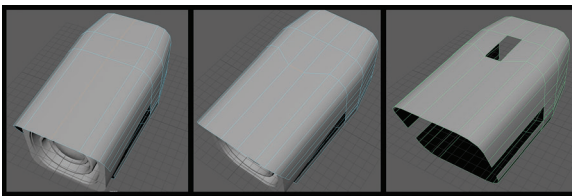

FIGURE 1.20 Creating an upper shell hole, and finally isolating just the shell.
Step 17: Upper shell hole. Add an edge loop at the center of the model. Then select the new loop, press Ctrl+B to bevel it and change the fraction to 0.32. Switch to Move tool and use the Ctrl+Shift trick to slide the edge in the center forward to mark the front edge of the opening. If you are not sure if the face is gone or not, you can go to Object mode and grab the shell and press Ctrl+1 to isolate it. You can press Ctrl+1 to toggle the isolation (Figure 1.20).